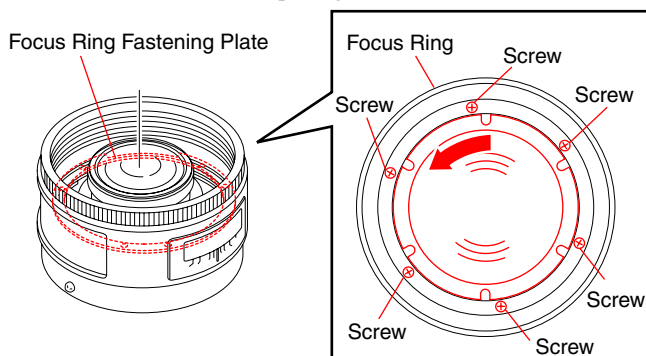

Fig.4-4-6
Note: If in-focus point cannot be obtained even through the focus ring is fully turned, perform the following steps (1) to (4) and shift the position of the focus ring. (Refer to Fig.4-4-6.)
- (1) Set the focusing ring to the infinity stop position, and hold the focus ring.
- (2) Loosen the six screws fixing the focus ring fastening plate.
- (3) Turn the helicoid in the direction of the arrow (screw in direction), and tighten the six screws loosened in step (2) tentatively.
- (4) Perform the step 4) again.